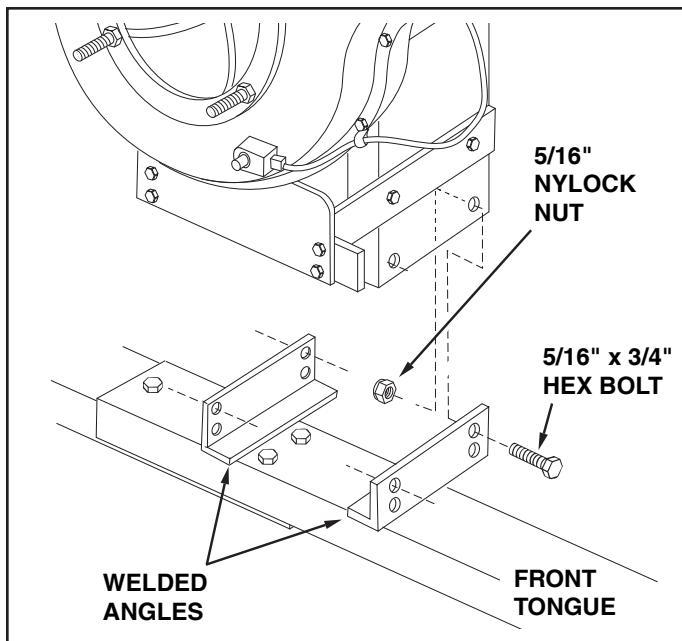

FIGURE 16
28. Attach the engine/impeller housing assembly to the **upper** holes in the angles welded to the tongue. Use four 5/16" x 3/4" hex bolts and 5/16" nylock nuts. **Tighten**. See figure 16.
- b. Loosen by approximately 1/4 turn each, the four bolts that you assembled in figure 16.